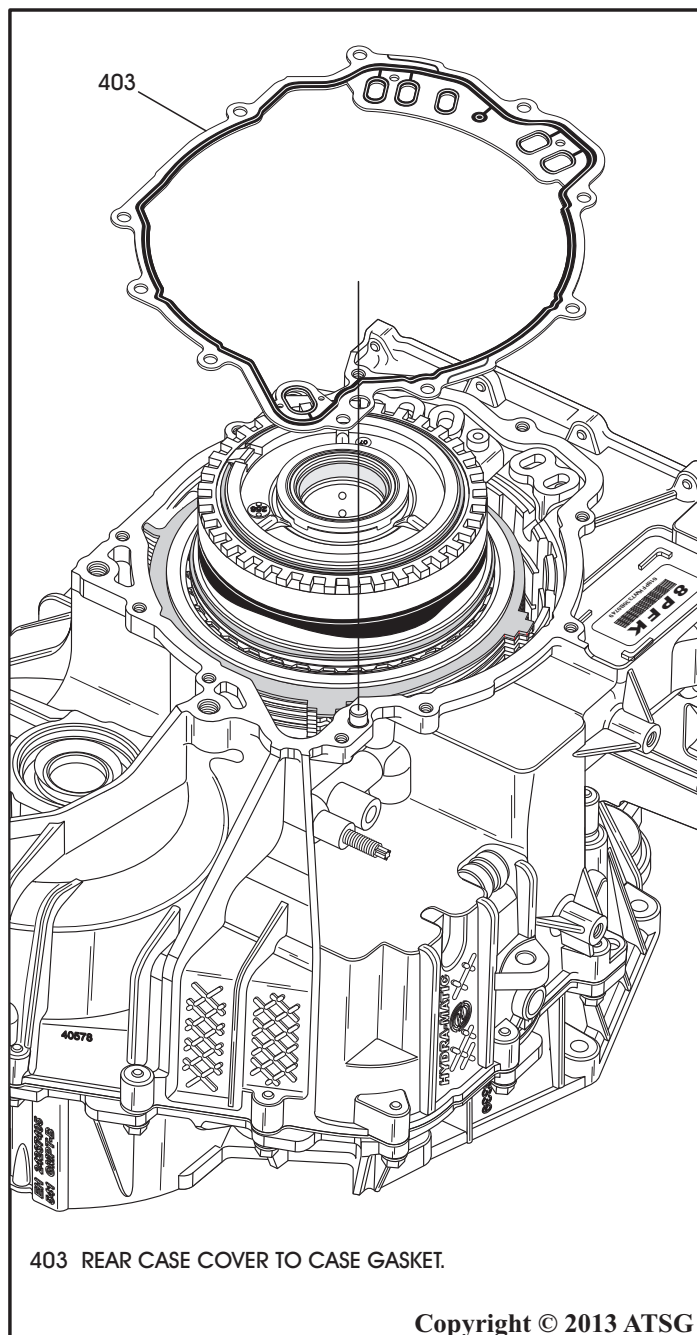

Figure 55
25. Remove and discard the rear case cover to case gasket, as shown in Figure 55.